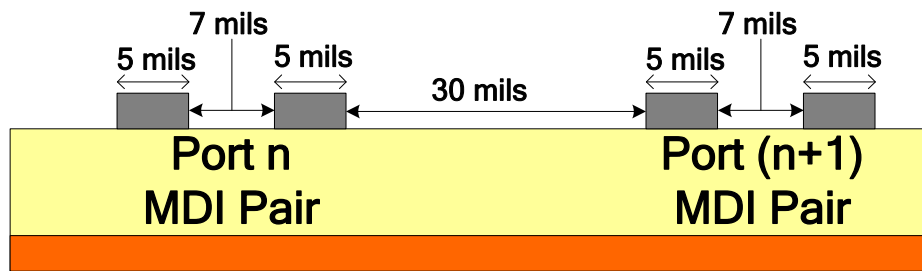
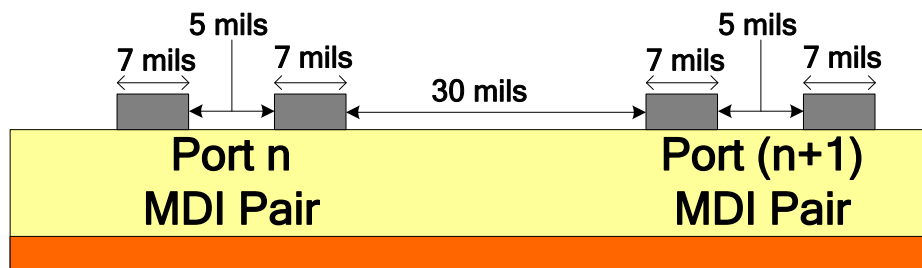

Figure 1. Trace Width and Spacing Recommendation for 4-layer PCB
Figure 2. Trace Width and Spacing Recommendation for 2-layer PCB
- Please follow 100 ohms differential-pair impedance requirement, which follows figure 1 and figure2 diagram.